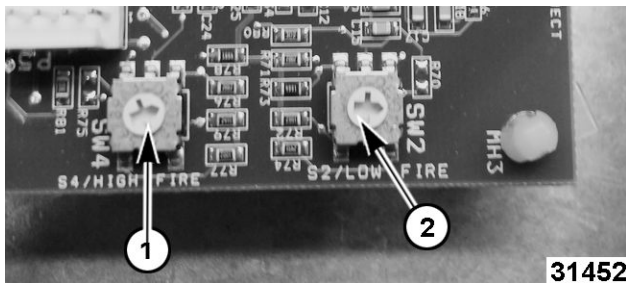

Fig. 41
- High Fire = F (1, Fig. 41)
- Low Fire = 9 (2, Fig. 41)